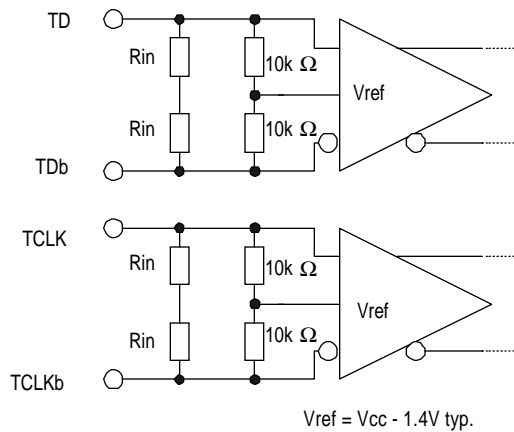

Figure 3 Data and Clock Input Interface
1. Termination current is not included. 2. Measured between each signal input and  $V_{ee}$ . Refer to Figure 3.